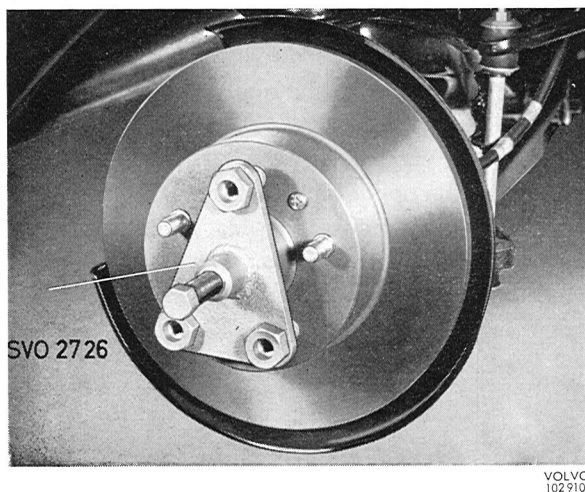
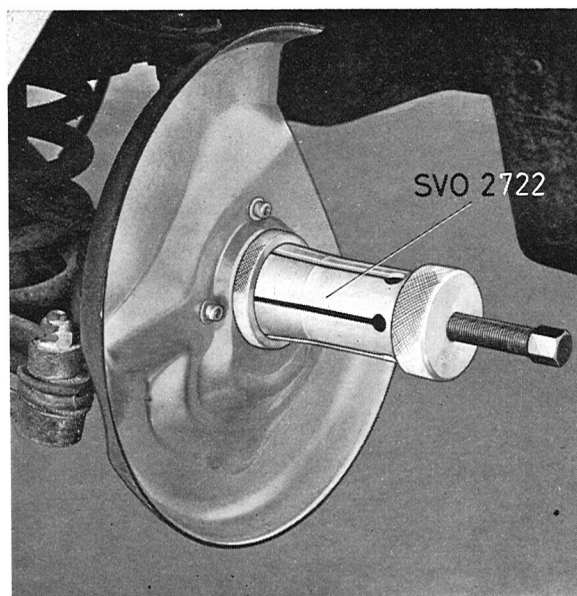

Fig. 6-19. Removing front wheel hub
Fig. 6-20. Removing inner bearing
2. Remove the grease cap with tool 2715. Remove the split pin and castle nut. Pull off the hub with puller 2726, see Fig. 6-19. Pull off the inner bearing for the steering knuckle with tool 2722, see Fig. 6-20.
1. Place the inner bearing in position in the hub and press in the sealing washer (1, Fig. 6-20) until it goes against the bearing outer ring. Use drift 5005 and standard handle 1801.
3. Press the seal (2, Fig. 6-20) on the steering knuckle, without the tool, until it bottoms. It is important that the ring is not fitted at an angle.